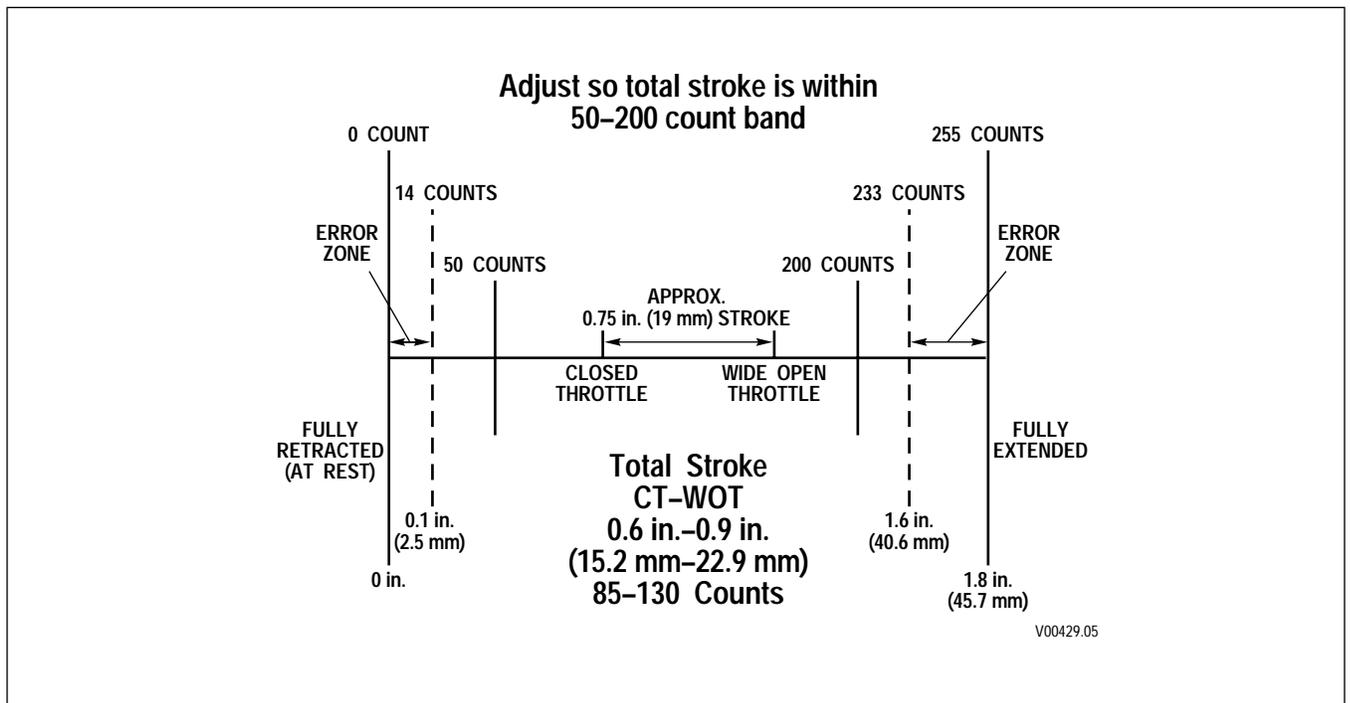

Figure D-2. Throttle Position Determination Diagram
2. Each position gives a different voltage. The ECU then converts the voltage to counts. Each count corresponds to approximately 0.007 inch (0.179 mm) of throttle sensor movement. Figure D-2 diagrams the counts and throttle movement relationship.
NOTE: After replacing or adjusting the throttle position sensor linkage, the technician should use the diagnostic tool to clear the throttle calibration. Go to the DDR selection menu and locate ACTION REQUESTS. Select RESET THROTTLE CALIBRATION and ENTER to set the 0 percent throttle counts. After the idle counts are established, the throttle should be moved to the Full position to establish the full or Wide Open Throttle (WOT) position (100 percent). The full throttle counts will be the same as the idle counts until the throttle is moved. The full throttle counts are set when maximum travel is reached so stopping before actual full throttle will set the 100 percent point artificially low. Refer to Figure D-2 for proper counts and percentage. Refer to Figure D-3 for illustration of throttle position adjustment.
When properly installed by the equipment manufacturer, the TPS should not require adjustment. Confirm that the throttle sensor is installed to manufacturer specifications before adjusting the throttle position sensor. The idle count should be 50 or higher and full throttle count 200 or lower. The TPS is self-calibrating meaning there is no optimum closed throttle or wide open throttle count value. As long as the counts are within the 50 to 200 range, the TPS is set properly. Total stroke of 85–130 counts must be maintained. Watch the movement of the throttle sensor as the controls move it through its full stroke. Be sure there is no misalignment or obstruction to smooth movement through the full stroke. Make certain the idle and full throttle positions are not in the error zones (refer to Figure D-2). The error zones occur when the idle position is less than 14 counts, or when the full throttle position is more than 233 counts. When idle or wide open throttle positions are in the error zones, codes 21 12 and 21 23 occur, respectively. These codes cause the transmission to shift as if the throttle is fully depressed (100 percent throttle) affecting shift quality and causing decreased fuel efficiency. Code 21 XX may be caused by a short or open circuit in the chassis harness or by incorrect voltages. If this occurs, refer to code 21 XX chart.